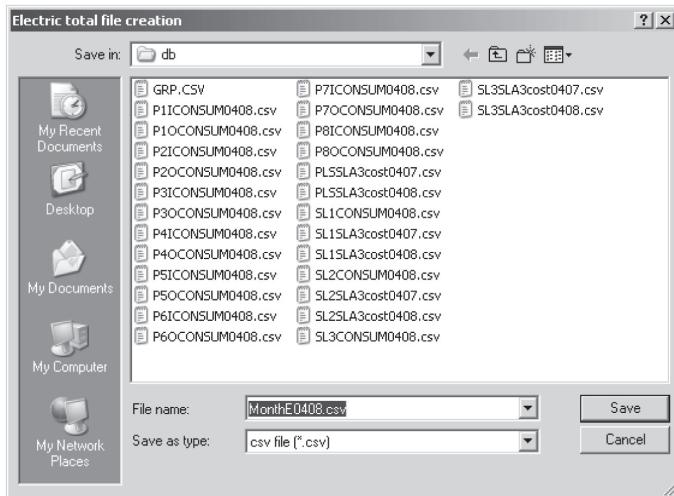

Fig.16 Input the file name dialog box
2) When you click the check box “The electric energy consumption”, Fig.16 dialog box will appear. If you want to change the file name, the folder name and the drive name, select another drive name and the folder, and type another file name that you want.